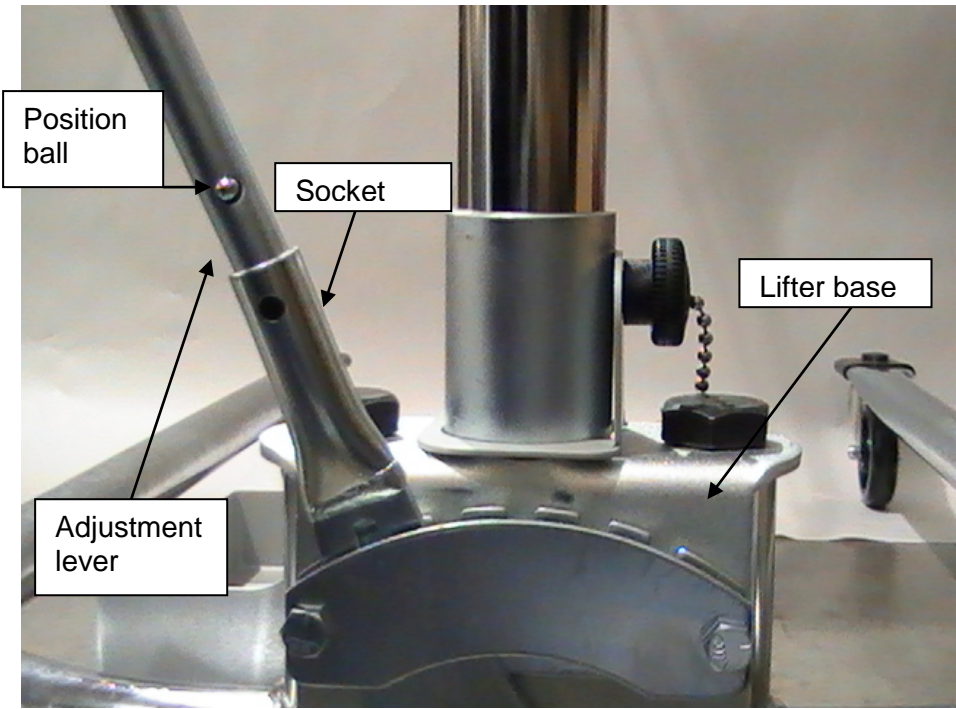

Figure 5
16. Insert the base adjustment lever into its socket at the back of the lifter base. Check to see that the positioning ball on the outside of the base of the adjustment lever fits securely in the socket (see Figure 5).
17. To adjust the lifter base with casters, unlock the legs by pulling back on the adjustment lever. Move the lever to the right in order to widen the base (see Figures 5 & 8).